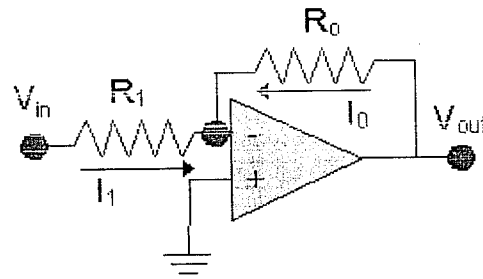

Figure Q1.b1
- In the circuit given in *Figure Q1.b1*, what is the expression for the ratio of output to input voltages ( $V_{out} / V_{in}$ )?